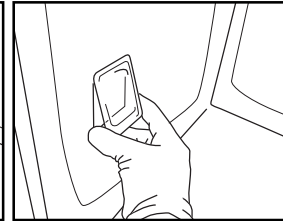

Fig. 10
5. Reposition the lamp cover, pushing it on firmly until it snaps into place (Fig. 10).